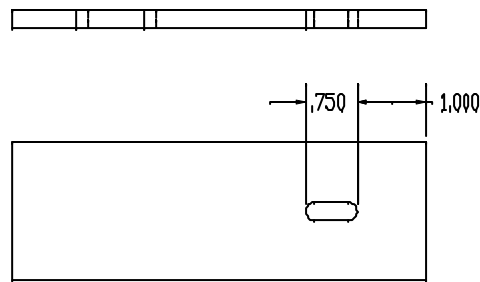

Figure 3
STEP 3. Using an 11/64" drill bit, match drill the anchor holes in the splice bar through the anchor holes in the Side B cover plate, see Figure 3.